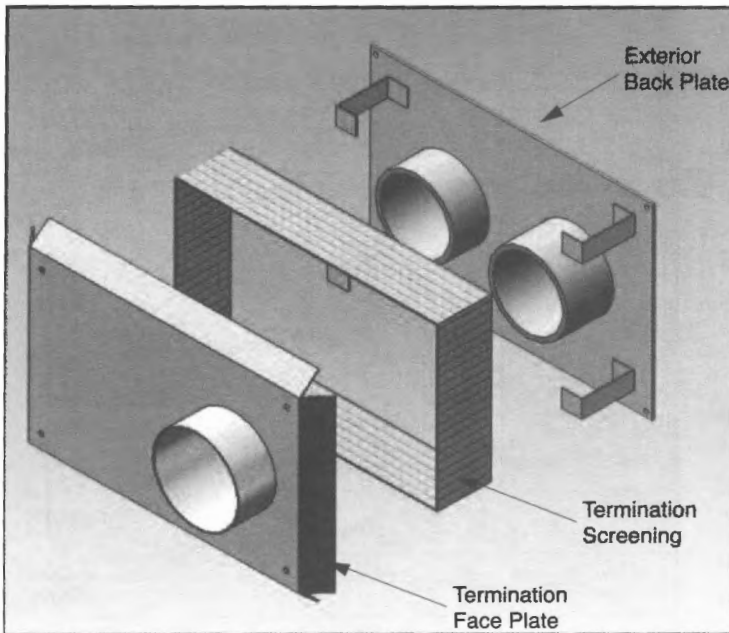

Fig. 4: Exterior Assembly of Termination
10. Install the termination screening onto the exterior back plate as shown in Figure 4. Using a slight twisting motion install the termination faceplate with the vent pipe inserted into the vent coupling.